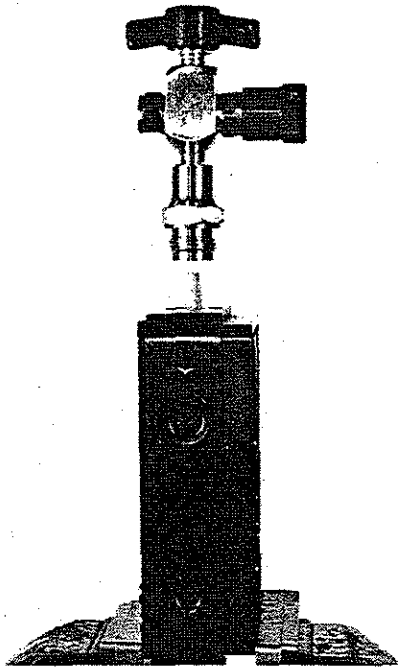

FIGURE 23
3.11 Place the Centerbody in vise with padded jaws (Fig. 23) and using a $\frac{7}{8}$ " open end wrench, remove the inlet assembly and nylon filter.